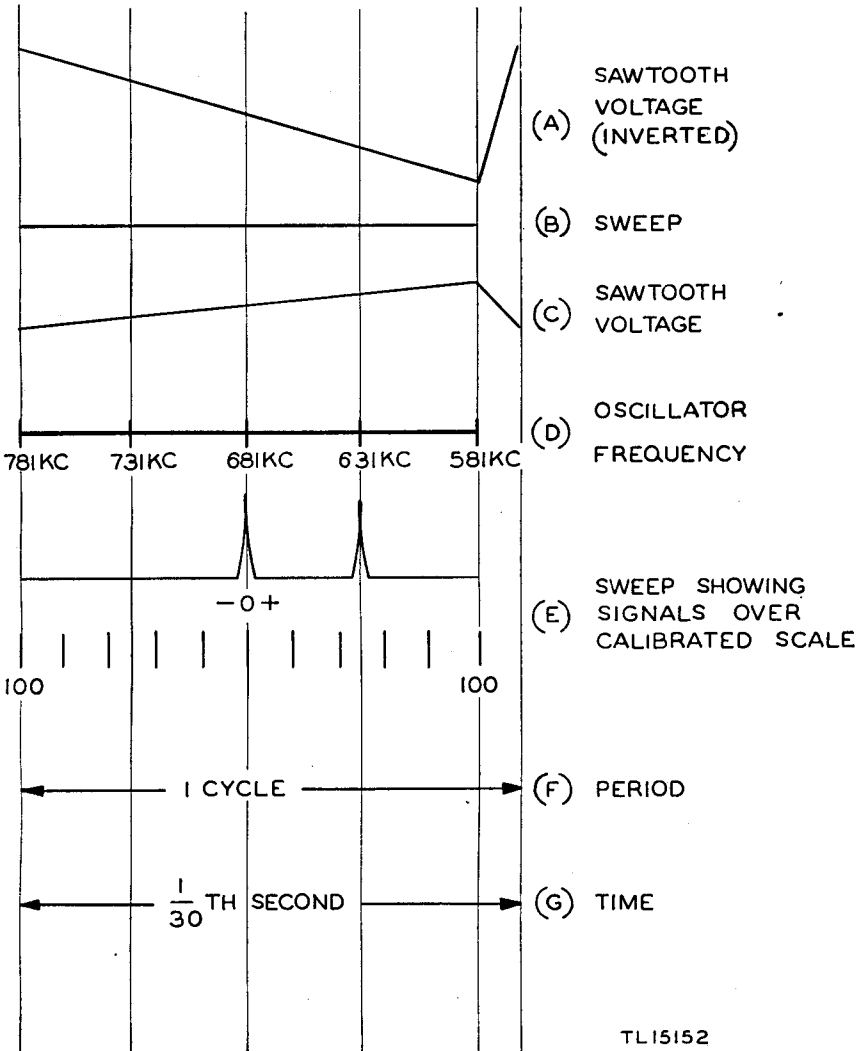

Figure 8. Time, voltage, and frequency relationships.
inverted saw tooth to be applied to the horizontal deflection circuit of the oscilloscope. Thus, at the same instant that the saw tooth (fig. 8(C)) is changing the oscillator frequency from 781 to 581 kc (fig. 8(D)), the inverted saw tooth (fig. 8(A)) steadily moves the oscilloscope electron beam from left to right across the screen tracing a straight line (fig. 8(B)). Since this trace line is thereby synchronized with the oscillator frequency sweep, any position on the line indicates the oscillator is tuned to a definite frequency (fig. 8(D)). When the oscillator is tuned to 681 kc (middle of its frequency sweep), it means the oscilloscope beam has also reached the middle of its horizontal trace.
(8) Assume now that the companion receiver is tuned to a 3,000-kc signal. This signal is mixed with the 3,455-kc signal from the h-f oscillator of the companion receiver to produce the 455-kc intermediate frequency. This latter frequency will pass through the companion receiver to the loudspeaker. It is also fed through the band-pass amplifier to the panoramic mixer. When the h-f oscillator reaches the 681-kc point of its cycle, it mixes with this 455-kc signal to produce the 226-kc intermediate frequency of the panoramic receiver. This burst of signal in the i-f system is detected and applied to the oscilloscope vertical deflection plates producing the peak at the center of the scale (fig. 8(E)). Thus the center (- 0 +) mark on the scale always represents the frequency to which the receiver is tuned, and the calibrations (± 100 kc) above and below this point indicate signals which are present on the antenna but are not being reproduced through the loudspeaker. Now, if at the same time the 3,000-kc signal is received, another signal is present on 3,050 kc, this frequency mixes with the h-f oscillator of the companion receiver to produce a 405-kc i-f. Since the companion receiver i.f. is sharply tuned to 455 kc, this signal never reaches the loudspeaker. However, it passes through the special band-pass amplifier to the panoramic mixer. When the h-f oscillator reaches the 631-kc point (fig. 8(D)) of its cycle, it beats with the 405-kc signal to produce the 226-kc frequency of the panoramic i-f system. This burst of i-f energy is detected and causes a peak to appear on the screen at the +50-kc point (fig. 8(E)), the electron beam having reached in this time a point midway between the center and the right side of the screen. The 3,050-kc signal, therefore, is not heard but its presence is indicated on the panoramic screen.
NOTE: The saw-tooth voltage waveforms shown in figure 8(A) and 8(C) are theoretical representations. The linearity (rate of change) of actual saw-tooth voltages used in practice only approaches these ideal wave-forms. The amplitudes of the two saw-tooth voltages shown in figure 8 have a ratio of 2 to 1. Actually, the amplitude of the saw-tooth voltage applied to the horizontal plates of the cathode-ray tube in the adaptor is approximately 20 times as great as the saw-tooth voltage applied to the grid circuit of the reactance modulator.
(9) By similar reasoning it will be seen that any signal within the 200-kc bandwidth of the special band-pass amplifier will pass through the i-f amplifier of the adaptor at the correct time to appear on the screen in its proper relationship to other signals.
(10) Figure 8 shows one complete cycle of operation. This cycle is periodic and repeats approximately 30 times a second.